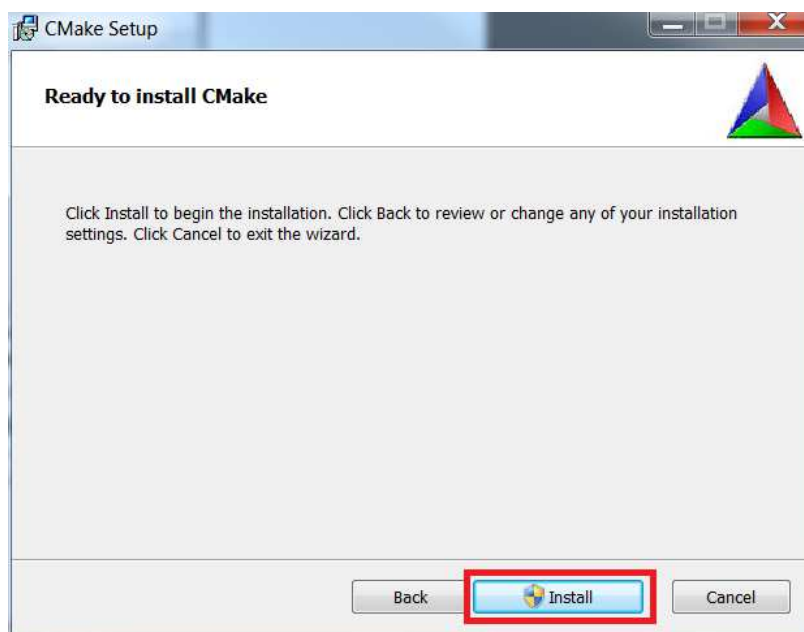

Figure 19. CMake Ready to Install
5. Click “Install” as shown in Figure 19 and let CMake run.